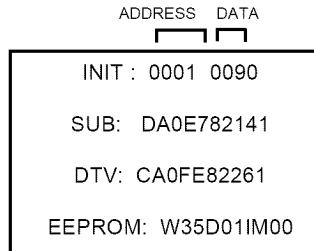

FIG. 2
3. Press both VOL. DOWN button on the set and Channel button (6) on the remote control for more than 2 seconds. ADDRESS and DATA should appear as FIG 2.